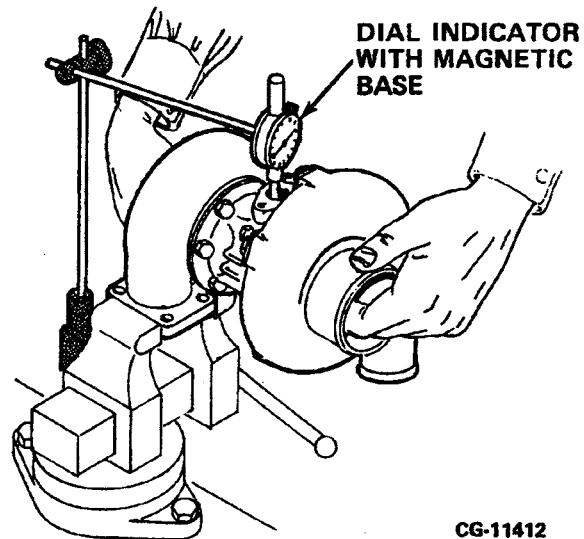

Figure 2.12. Checking Radial Shaft Movement with Housing Installed
2. Install a two-inch contact point extension on the dial indicator and position the indicator as shown in Figure 2.12. The indicator contact point must contact the turbine shaft through the oil drain port in the center housing.
3. Check radial shaft movement by lifting the shaft up and then letting it down (Figure 2.12).